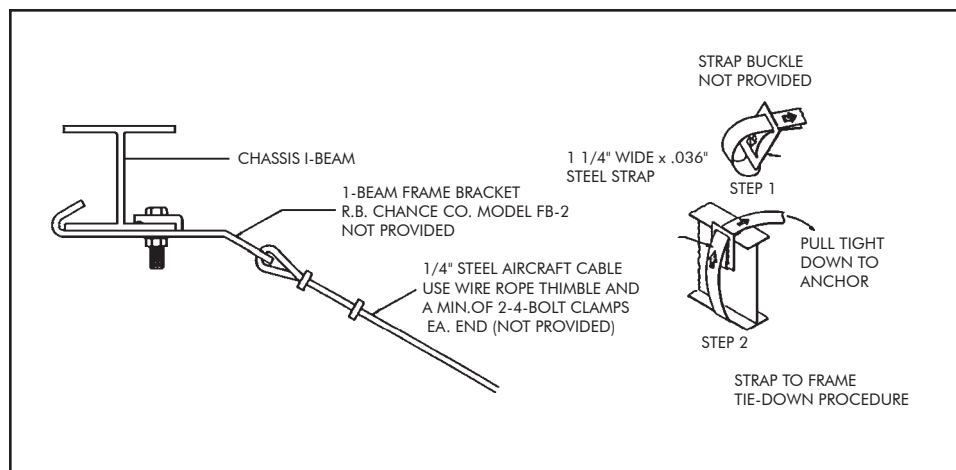

FIGURE 22
1. I-beam frame bracket model FB-2 (min. of 6 required) from A.B. Chance Co., 210 North Allen Street, Centralia, Missouri 65240, www.abchance.com. The frame brackets must be installed as specified by the manufacturer's installation instructions. As an alternate to installing a frame bracket, the anchor strap may be looped over the top of the main beam by using a strap buckle as indicated in Figure 22.
5. All park model trailers should be secured to the ground with 6 tie-downs and ground anchors minimum (3 per side), to resist the sliding and overturning effects of high winds. When sidewall tie-down straps are provided at least six (6) shall be installed and provisions made for them to be securely attached to the chassis.